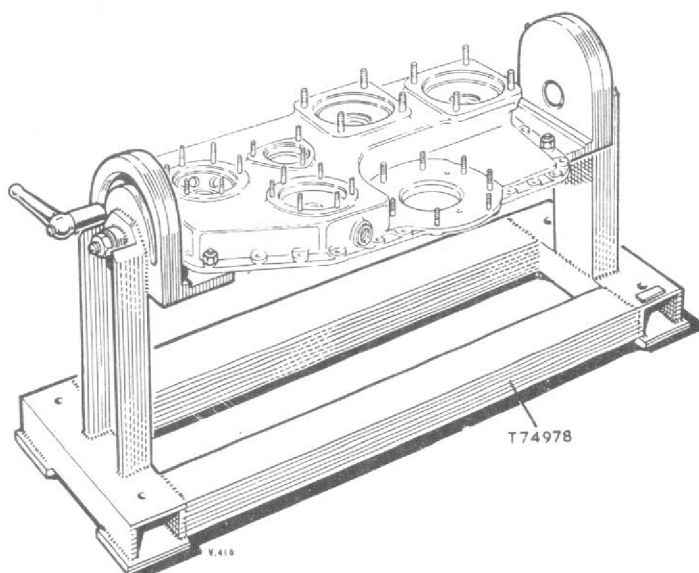

Fig. 5. Top wheelcase (48 Mk. I) on build stand T74978
15. Invert the wheelcase so that the air-intake joint face is uppermost; position it on build stand T74978 and secure it with four slave bolts and nuts (fig. 5).
- (2) Assemble the retaining bolt (11) through the gear from the opposite side; fit tab-washer (Part No. N3744) and screw on the thin nut finger tight.
- (3) Assemble locking plate T75555, illustrated in Chapter 24D, fig. 5, to the wheelcase with its cruciform slots located over the four nuts of the tachometer gear and secure it in position with the four special waisted bolts.
- (4) Clamp a D.T.I. to a convenient position on the edge of the casting; locate the stylus on the gear and check that the end float is within the limits.
- (5) Remove the dial test indicator.
- (6) Bend up the tab-washers to lock the four nuts.